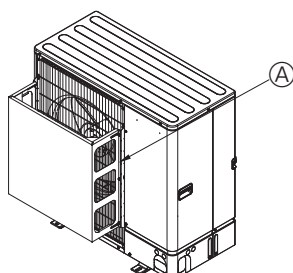

Fig. 4-22
- ② Install an optional air guide if the unit is installed in a location where strong winds from a typhoon, etc. may directly enter the air outlet. (Fig. 4-22)